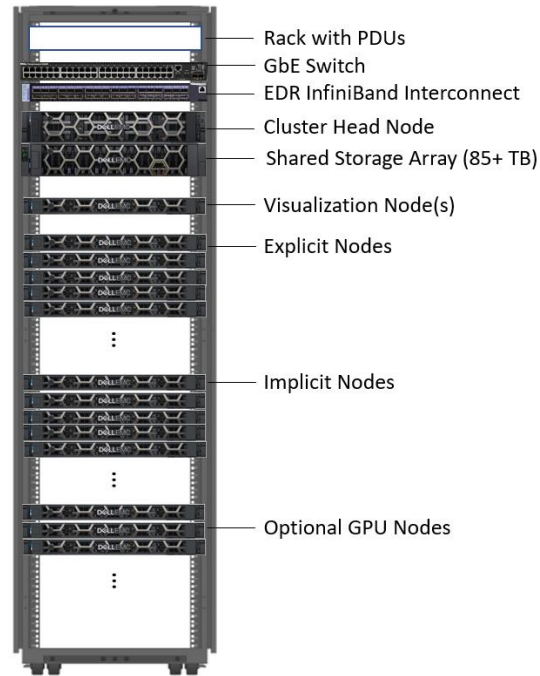

Figure 4 - The Altair Unlimited physical appliance
The appliance illustrated in Figure 4 is comprised of standard server building blocks to deliver optimum performance, throughput, and value for compute-intensive HPC workloads. Node types can include:
The appliance includes Gigabit Ethernet (GbE) and EDR InfiniBand (IB) switches connected to each rack mount server node. The InfiniBand interconnect is used by distributed parallel solvers with Intel® MPI to accelerate parallel simulations. File sharing, workload management, and remote visualization run over the separate GbE network. All of the bundled software shown in Figure 4 is preconfigured and ready to run optimally on the node types installed in the appliance.